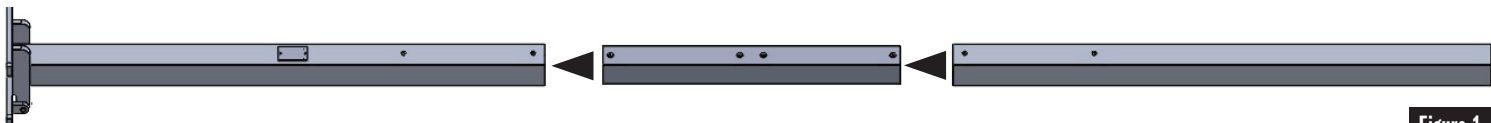
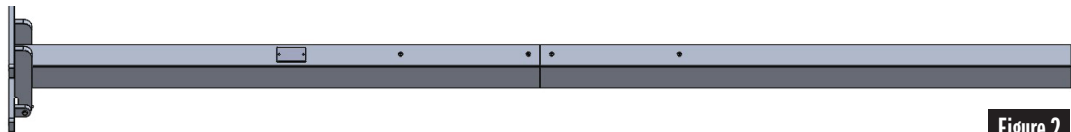

Figure 1
Figure 2
**STEP 1:** Build a 2' x 2' frame out of 2" x 4" lumber & lay it on the ground where you want the hoop installed. See Figure 1.
**STEP 2:** Using a shovel, cut into the ground around the outside of the frame to give the hole a defined edge; remove frame. See Figure 1.
**STEP 3:** Remove the frame and dig a square hole to the appropriate depth and dimensions shown in Figure 2.
**STEP 1:** Connect Tube 1 (Part D), Tube 2 (Part E) and Tube 3 (Part F) in the order shown below. See Figure 1 and Figure 2.